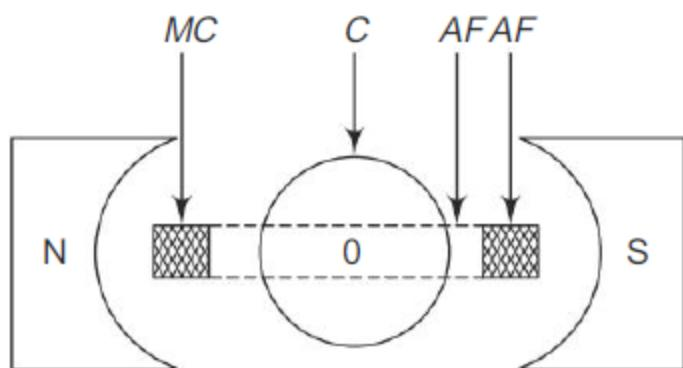

Fig. 7.9
**Construction** (Refer Figs. 7.9 and 7.10). N and S refer to the pole pieces of a permanent magnet. A soft iron core in the form of a cylinder is placed in the space between the poles (C). In the permanent magnetic field is placed a rectangular coil of many turns (*MC*) wound on a former (AF). The former is made of aluminium or copper. To the moving coil is attached the spindle ( $S_p$ ). Two helical springs ( $S_g$ ) are connected to the spindle to give the necessary control torque. A pointer (*p*) attached to the spindle is made to move over a calibrated scale.